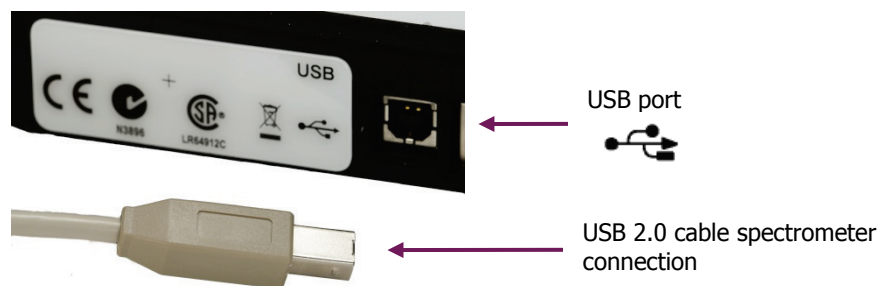

Figure 14 USB 2.0 cable connector and USB port
1. When prompted by the Spectrum software installer, plug one end of the USB 2.0 cable provided into the USB port on the rear of the instrument (Figure 14).
NOTE: For AssureID, install the USB drivers, connect your spectrometer as shown in Figure 14, start AssureID, and then run the Instrument Install Wizard (see page 42). Refer to the *AssureID Administrator's Guide* (part number L1050019) for more information.